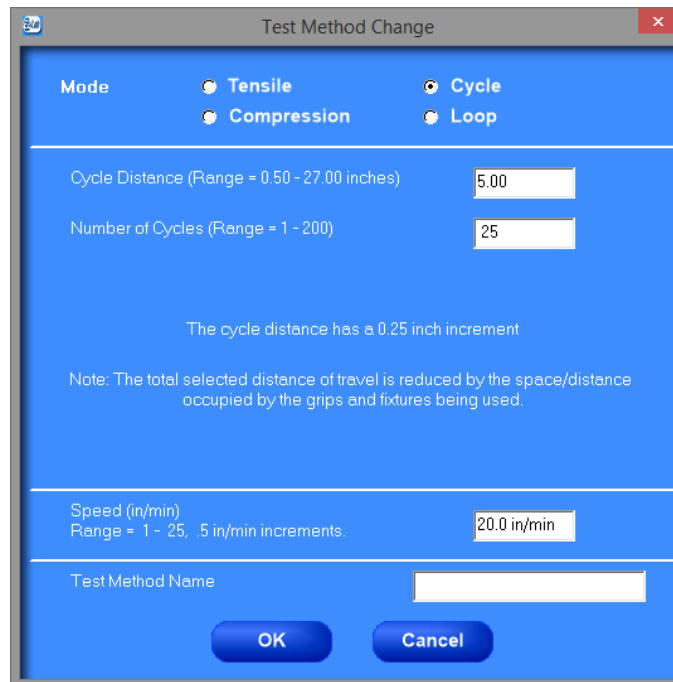

Figure 5 – Test Method Change Screen
1. Select the “New” button. This will open the Test Method Change screen. (See Figure 5 – Test Method Change Screen)